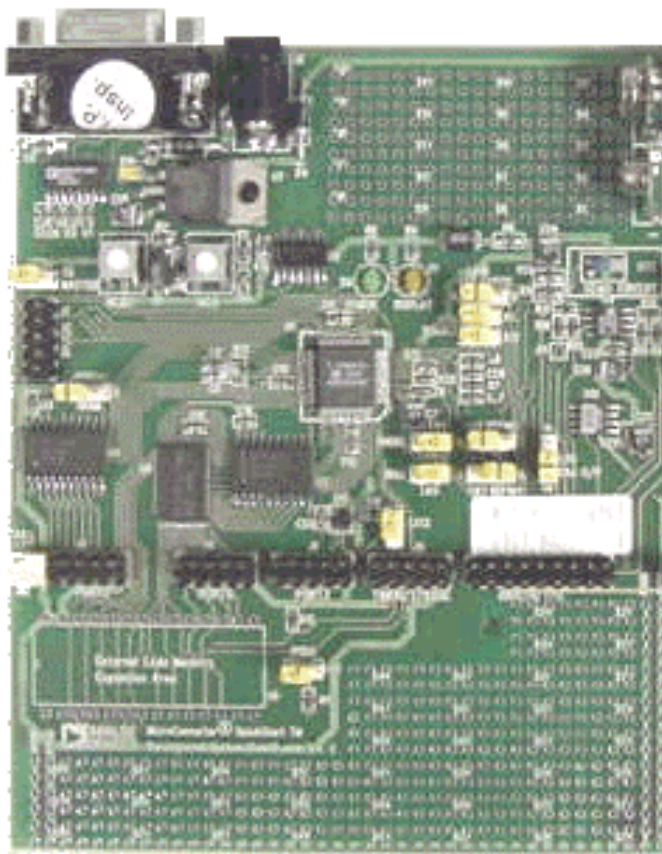

Figure 1: ADuC834 Evaluation Board
1. All references in this document to physical orientation of components on the board are made with respect to a component side view of the board with the battery connections appearing in the top right corner of the board as shown in figure 1.